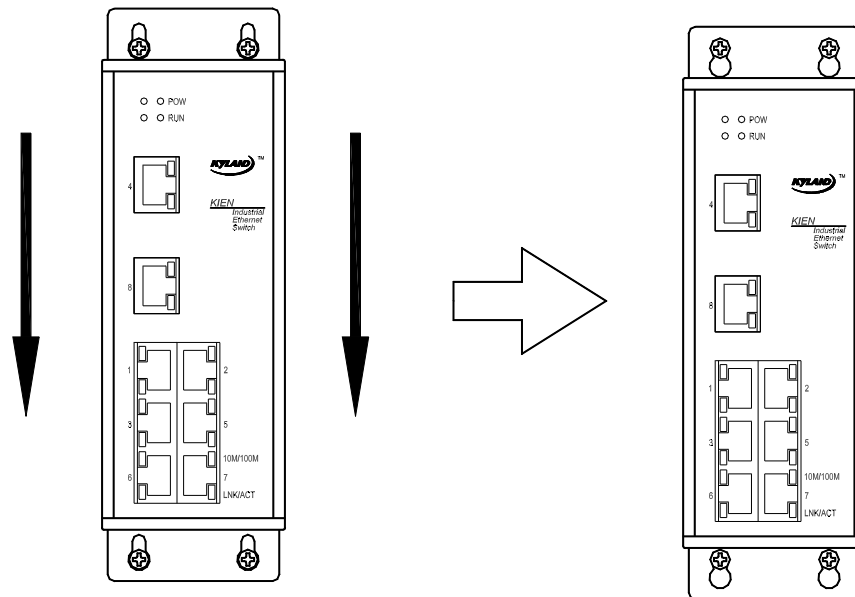

Figure 4-5 Schematic for Wall Hanging Mounting
- 4 . After screws are fixed on the wall, mount the switch on the selected position and make 4 screws pass through 4 $\Phi 6.5$ holes on the wall hanging plate. Slide down the switch, as showed in the Figure 4-5. Screw down 4 screws to fasten the switch on the wall or the internal wall of the switch cabinet.